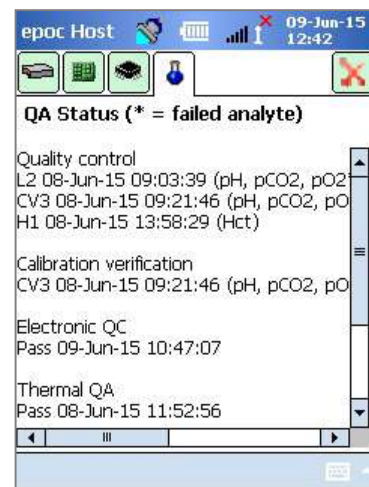

Fig. 45.
- c. Open the fourth tab (Fig. 45) to display the current Reader QA status.